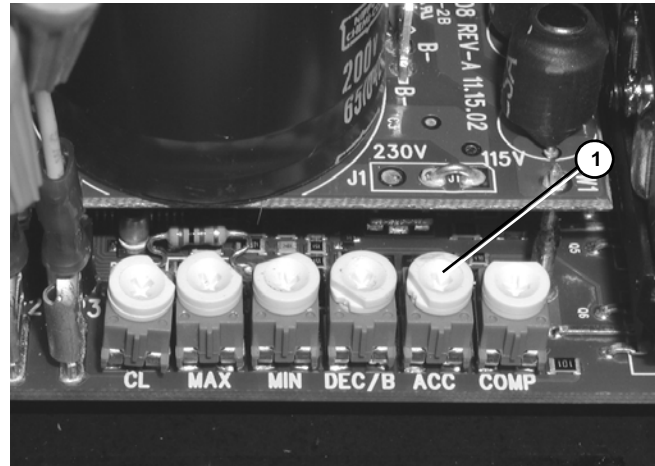

Figure 10
Acceleration (Figure 10, item 1)